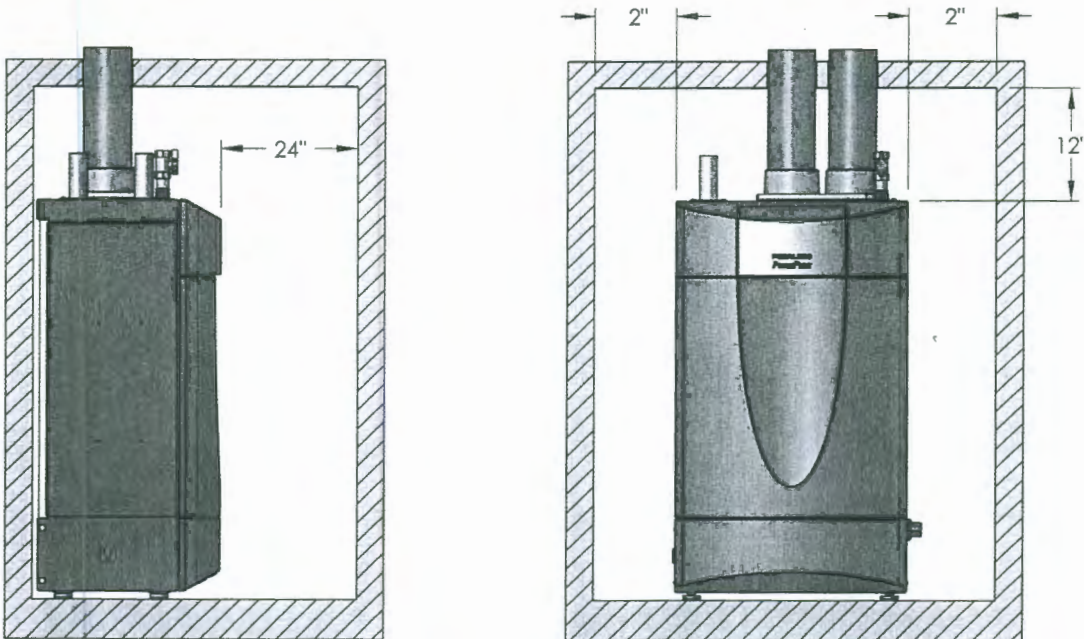
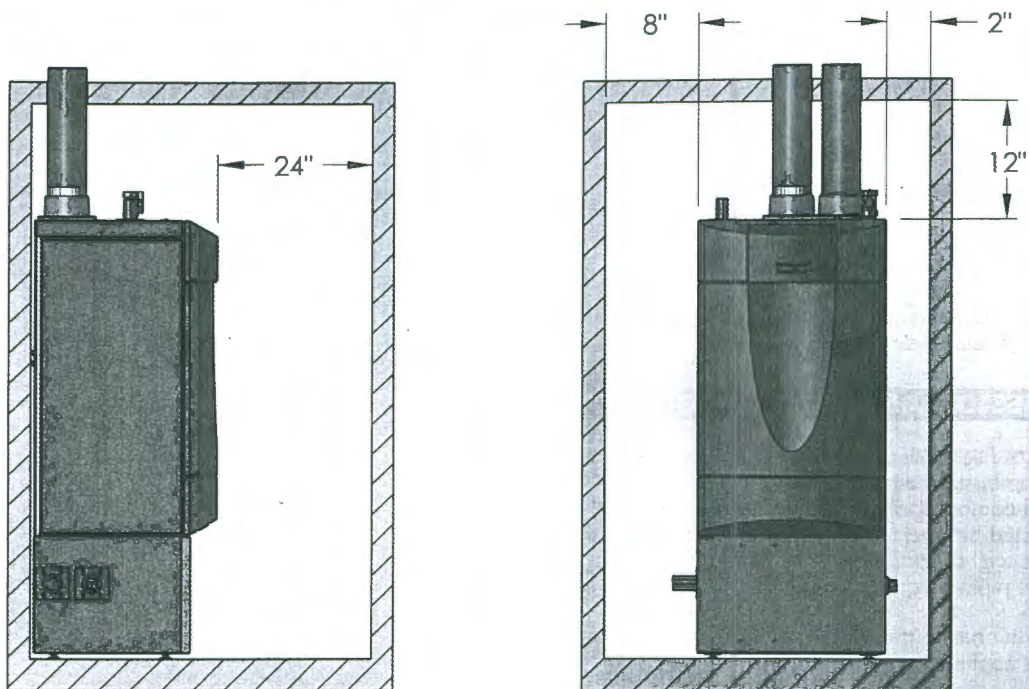

Figure 1.1: Minimum Accessibility Clearances - PF-50, PF-80, PF-110 & PF-140
Figure 1.2: Minimum Accessibility Clearances - PF-210 & PF-399
2. Figure 1.1 shows the minimum recommended clearances to allow reasonable access to the boiler for Models PF-50, PF-80, PF-110 and PF-140. For Models PF-210 & PF-399, Figure 1.2 shows the minimum recommended accessibility clearances. However, Local codes or special conditions may require greater clearances.